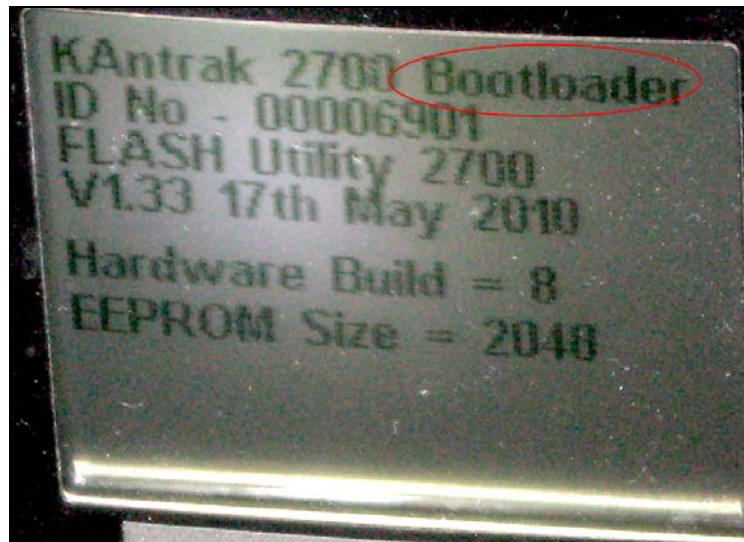

Fig.19
4. Release the two buttons, the boot loader screen will appear on the CANtrak unit and the HyperTerminal will show the menu screen (Fig.19).